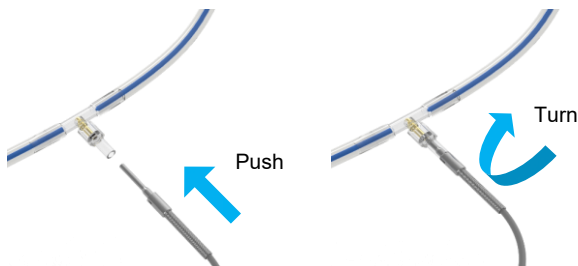

Figure 14 Connection of the temperature sensor to the perfusion set
- Connect the T2 sensor to the perfusion line, Figure 14; it is located at the outlet of the kidney reservoir.